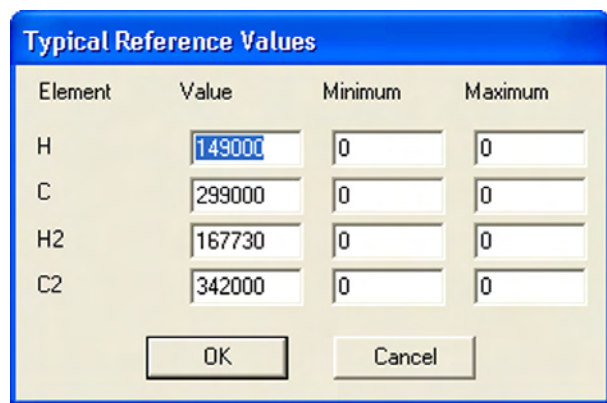

Figure 3-37, Program/Reference Values Menu
This dialog, Figure 3-37 permits the entry of typical intensity values for the reference channels. These fixed values will be used as the dividend in the intensity ratio calculation that occurs each measurement. One intensity ratio is determined for each measurement and this ratio is multiplied times each element's intensity produced for that measurement and will result in an intensity ratio. Military instruments have only one reference element and that is Hydrogen (H). Commercial instruments may have a Hydrogen (H) and Carbon (C) reference channel. Reference selection is performed at the factory before initial calibration, but may be changed in the field depending upon applications and performance.